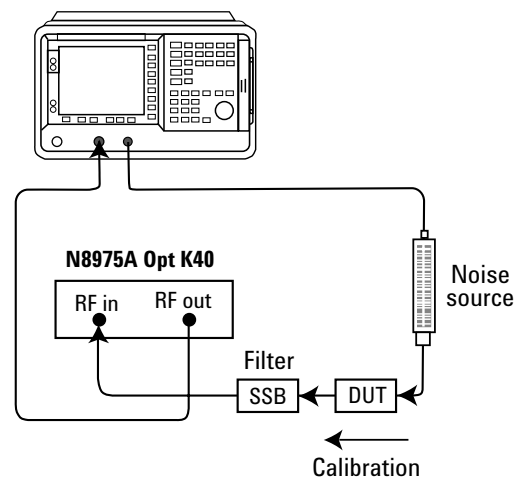

Figure 10. N8975A as system downconverter
The measurement setup is shown in Figure 10. The K40 has its own internal LO, so a fixed LO and swept IF measurement is required. The NFA cannot control the LO so no GPIB connection is required.
19. Connect the equipment as shown in Figure 10 (without the DUT).